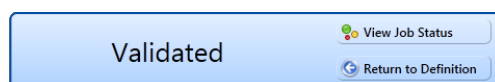

Figure 10-54. Validated Message
- 12 To validate the definition, click the **Prevalidate** button. When the validation process completes and the following message displays (Figure 10-54), click **View Job Status** to open the *Job Status* window or **Return to Definition** to open the *Definitions* window.